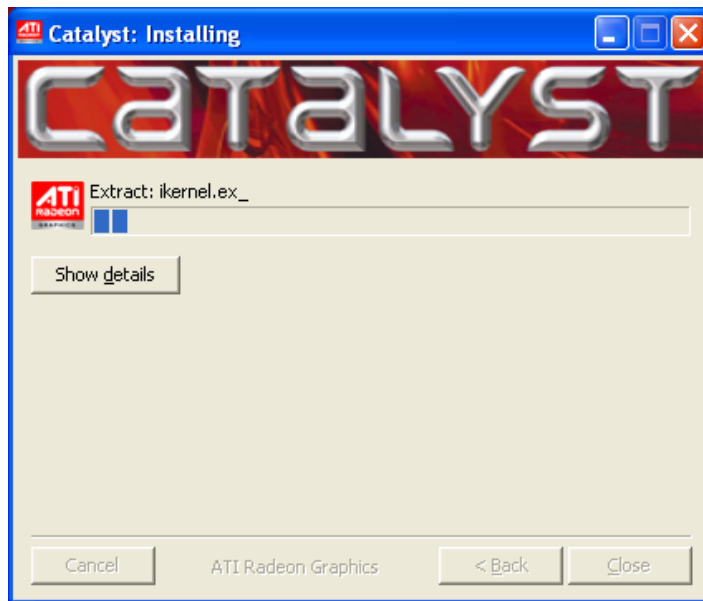

Figure 7-7: Chipset Driver Installing Screen
Step 8: The screen in **Figure 7-7** appears as the driver starts to install.